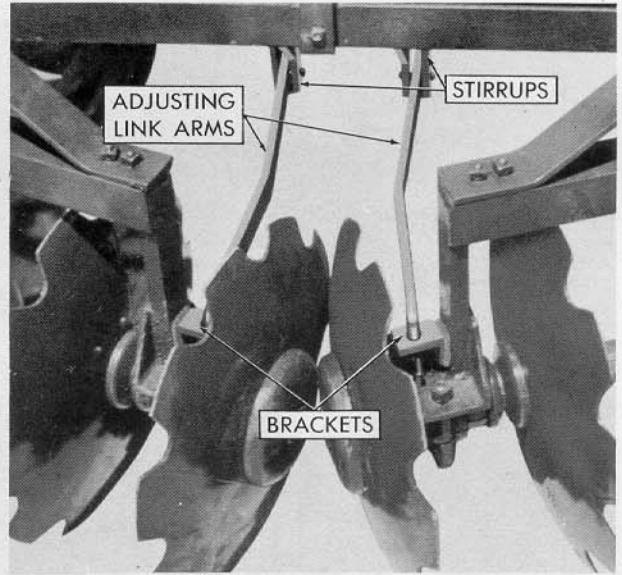

Figure 9
6. Attach the adjusting link arms, Figure 9 by placing the hook in the brackets welded to the gang frame, as shown. Secure the forward end in the stirrups with a pin and cotter pin as shown in Figure 9. When fastening the adjusting link arms to the stirrups,